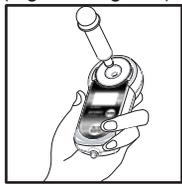
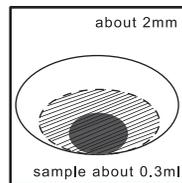

Fig. 3-1
Fig. 3-2
- (1) Clean the prism surface.
- (2) Put approximately 0.3ml of the sample to be measured onto the prism surface (Fig. 3-1, Fig. 3-2)